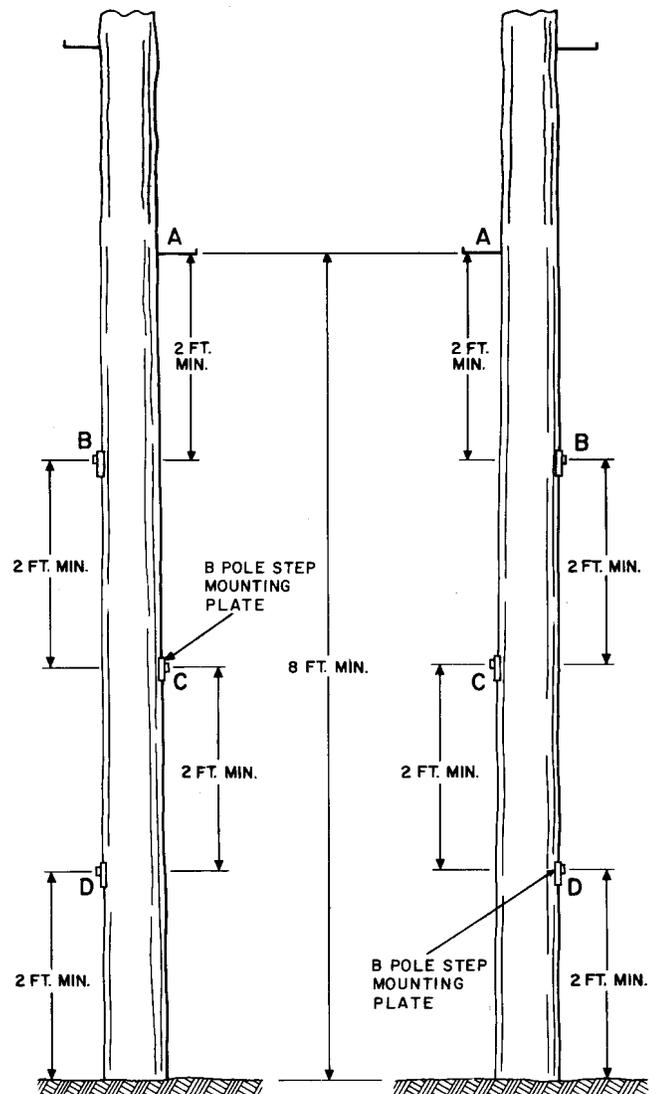

Fig. 6—B Pole Step Spacing
2.08 Figure 6 shows the arrangement of the lower steps where poles are equipped with mounting plates for detachable pole steps and the lowest permanent metal step is at a height of 8 feet above the ground.
3.01 Place a permanent step "A" at the 8 foot mark as shown in Fig. 6.
3.02 Place B pole steps "B", "C", and "D" equidistant between the ground surface and step "A" as shown in Fig. 6.
3.03 When the lowest permanent step is located at a height over 8 feet above the ground, follow the general arrangement shown Fig. 6. Using three or more mounting plates, space them at equal intervals ranging between 21 and 28 inches.